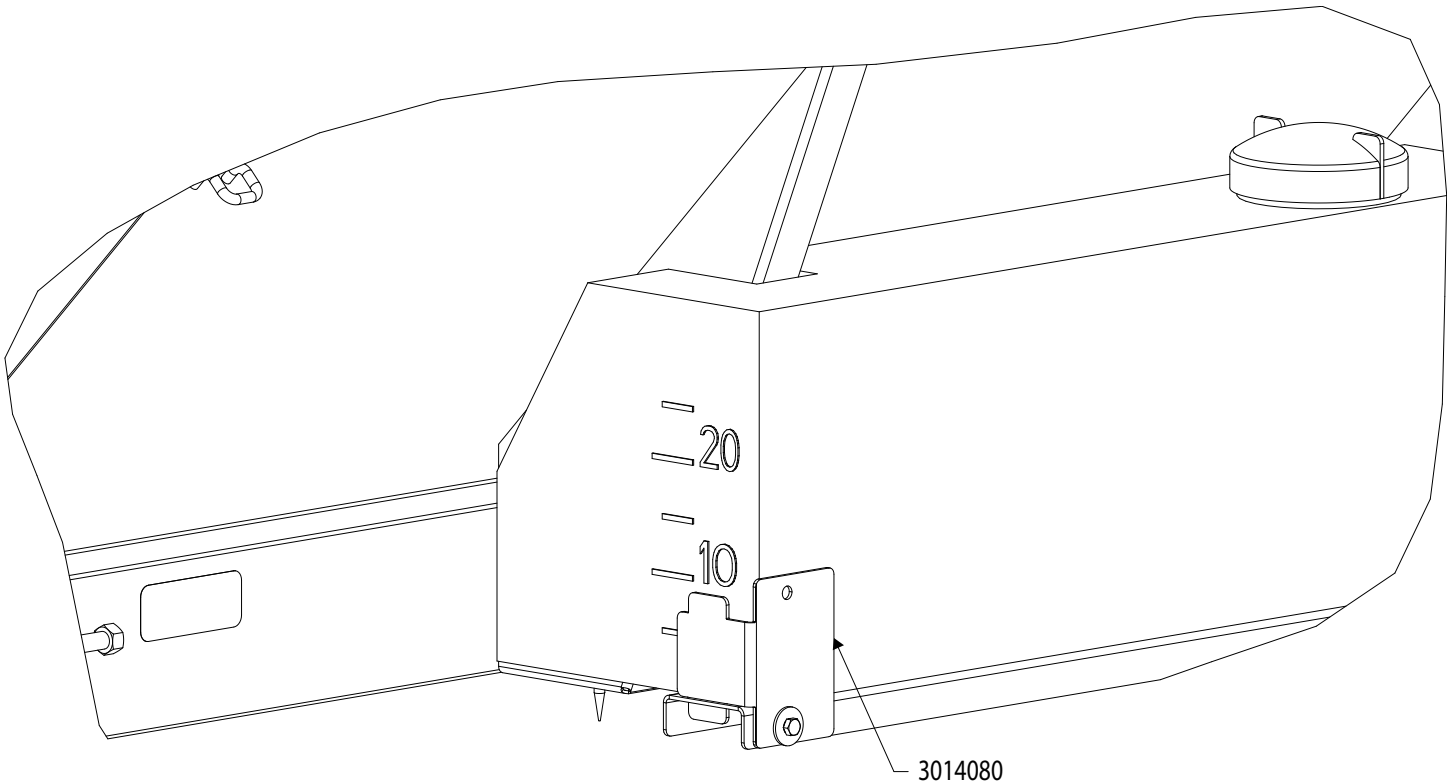

Fig. 3
- 4.** Secure Tanks on Supports using the locators (#3014080) and provided hardware as shown in Fig.3.